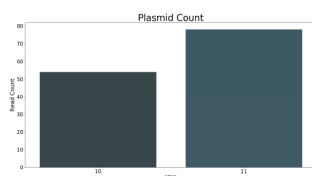

Figure 27. Quality control of the integrated tracking system
- **STIDs:** Verification that the tracking reagent obtained matches the expected one (if it has been used), as shown in figure 27.